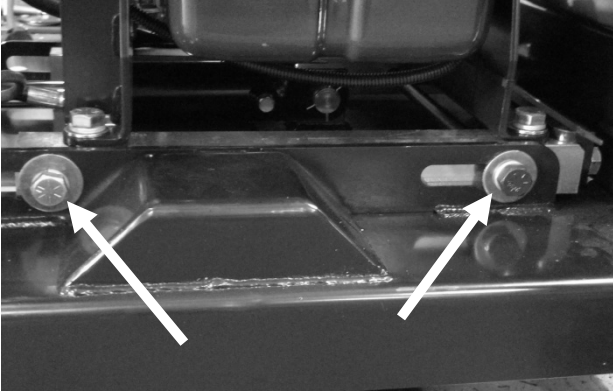

Figure 57: Engine Guide Cap Screws
3. Locate the belt tensioner lead screw on the front of the saw frame. To loosen the belts turn the lead screw clockwise. This will allow the gear box to tilt back releasing belt tension for ease in removing and replacing belts. To tighten the belts turn the lead screw counter clockwise. Test the belt tension and readjust the tension bolt as necessary. DO NOT exceed the manufacturer's belt tension setting. (Figure 57)